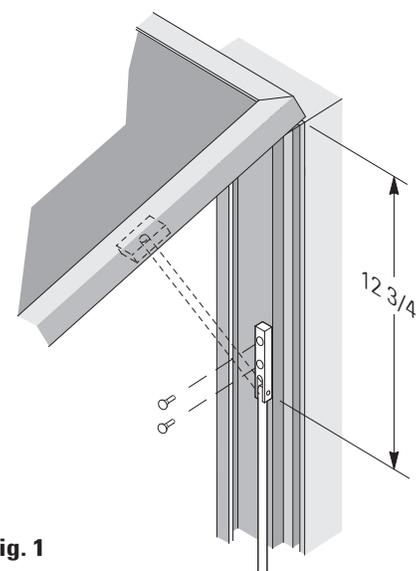

Fig. 1
Step 6 - Position Prop Rod assembly so that center of pivot pin is 12 3/4" down from top of directory cabinet and vertically flush with cabinet's outer, 1/4" return surface (See Fig. 1). Using pre-drilled holes as guides, transfer locations onto cabinet.